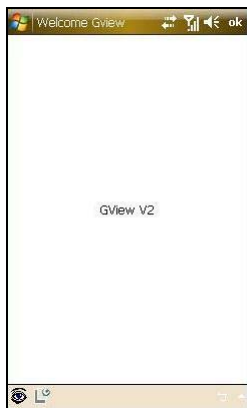

Figure 10-1
- Click the  button located at the lower left corner (Figure 10-1).